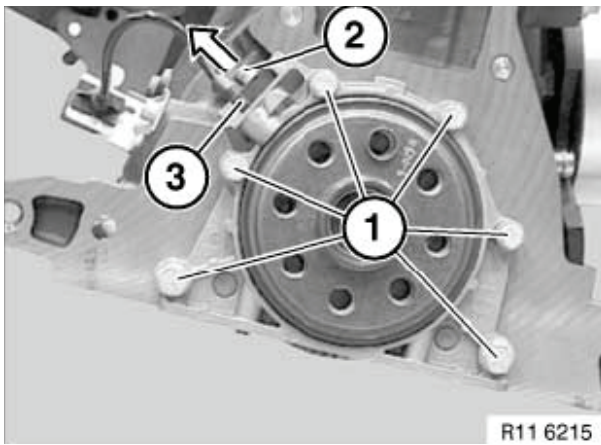

Figure 5-68
4. Remove bolt (**Figure 5-68, (2)**) and crankshaft sensor (**Figure 5-68, (3)**). See *Replace Crankshaft Sensor* on page 12-24.
5. Remove bolts (**Figure 5-68, (1)**) and remove rear crankshaft seal and housing as an assembly.